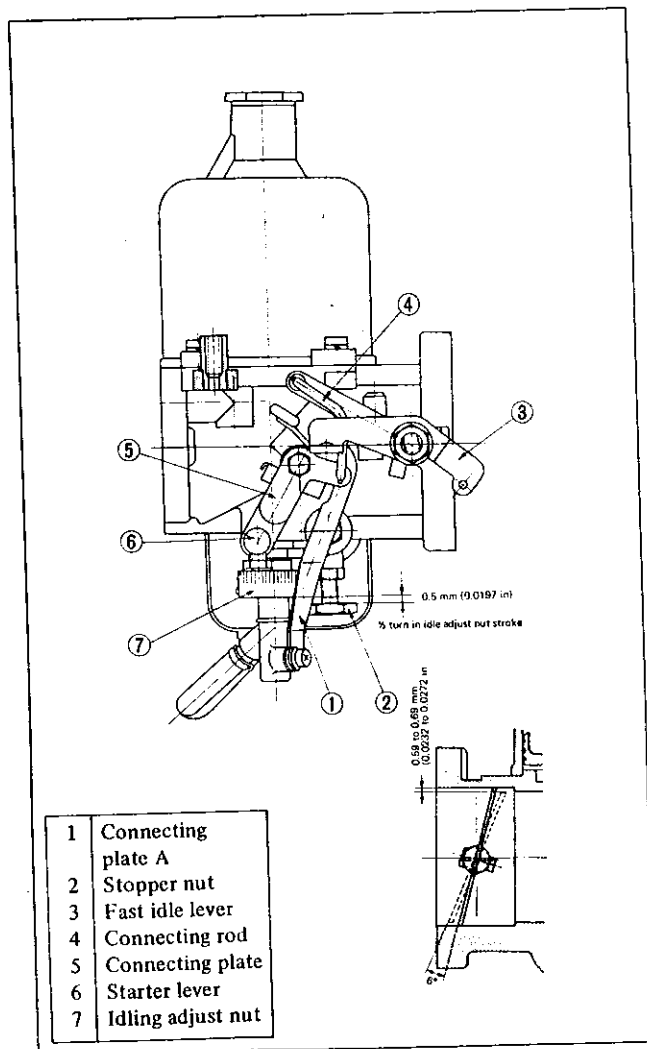

Fig. EF-45 Adjustment of starting interlock opening
For the adjustment of starting interlock opening, bend the connecting rod as shown in Figure EF-45 with an appropriate tool such as radio pinchers to change its length.
7. Then apply a few drops of light oil to the suction piston rod, and reassemble. Under no circumstances should oil be applied to the inside the suction chamber or to in Figure EF-45 with an appropriate tool such as radio pinchers to change its length, improper or defective operation.